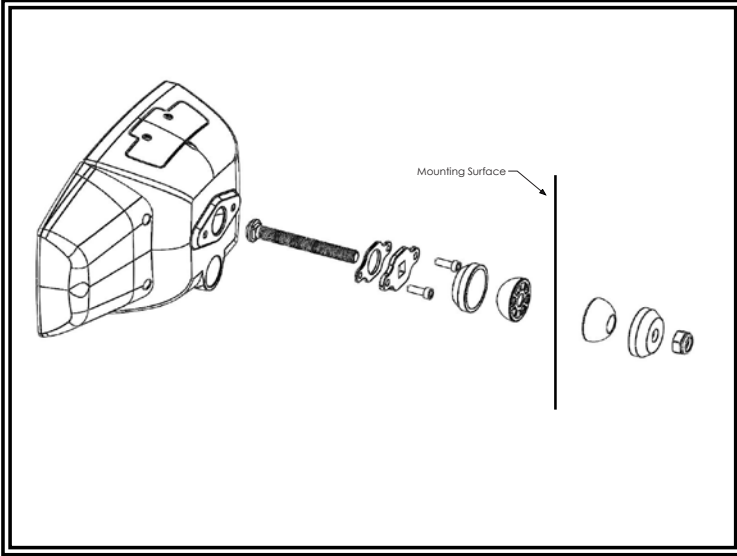

FIGURE 2
2. Secure the light head with the supplied hardware as shown in Figures 2 or 3.